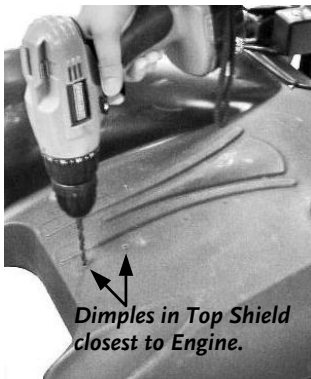

Figure 1a
1. Remove the Debris Bag Assembly and then drill two (2) 1/4" holes through Dimples in the Top Shield that coincide with the holes in the Top Shield Hose Rest Bracket (**Figure 1a**).